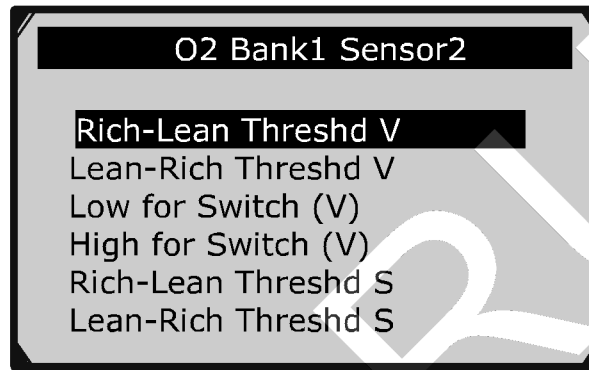

Figure 6.25
- 4) View test results of selected O2 sensor. (Figure 6.25)